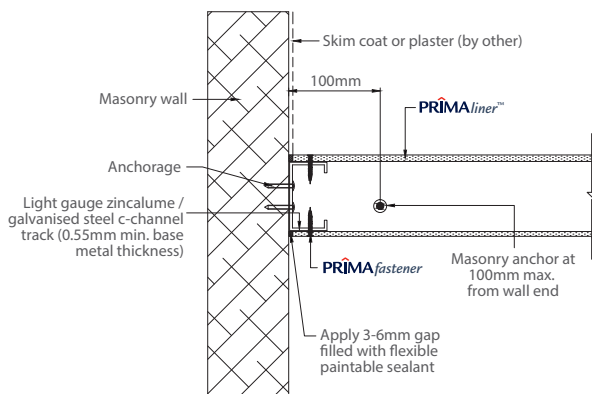

Figure 9: Concrete wall intersection to drywall
- b. Refer to Figure 9 for concrete wall intersection to drywall.